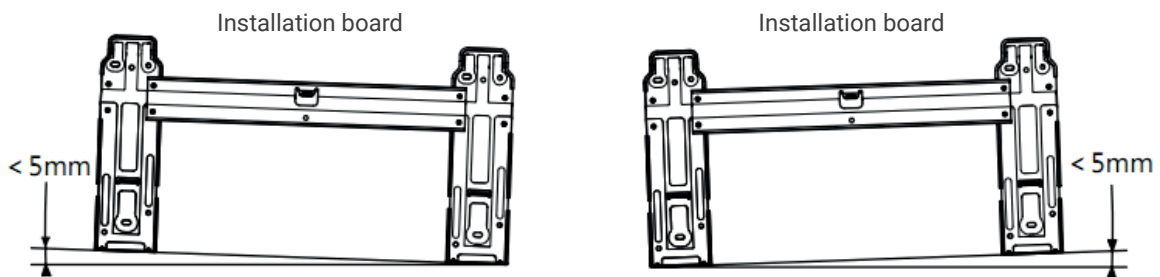

Fig.4
- Dismantle the metal installation board of the indoor unit. Adjust the installation board to horizontal position. The height difference between the left and right sides of the installation board should be less than 5mm. (Fig 4)